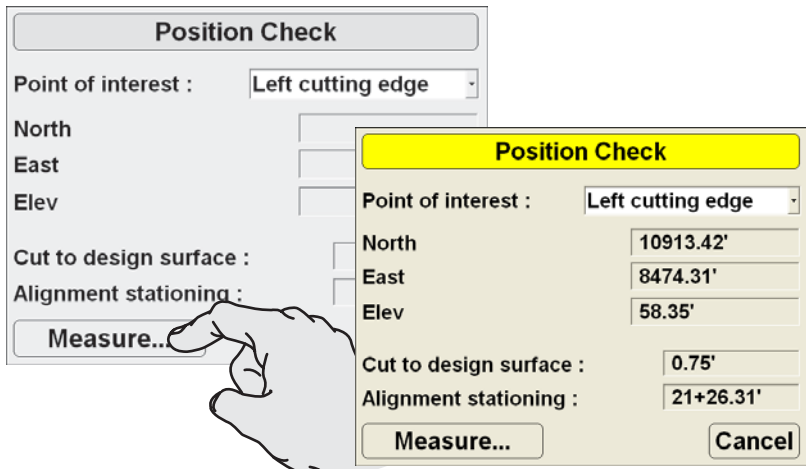

Figure 5-19. Select Point of Interest and Press Measure
2. On the *Position Check* dialog box, select the *Point of interest* (left edge or right edge of bucket), and press **Measure** (Figure 5-19); the *Measuring* dialog box displays during measurement.
3. When finished, the *Position check* dialog box displays the point on the job for the selected edge of the blade (Figure 5-19).